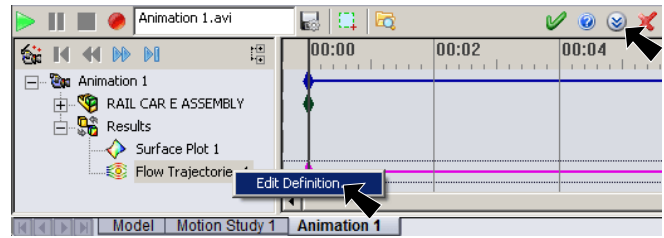

Fig. 38
Step 1. Right click **Flow Trajectories 1** in the Animation tree and click **Edit Definition**, Fig. 38.
Step 3. Click **Play**  in animation control panel, Fig. 38. Click **Stop** .